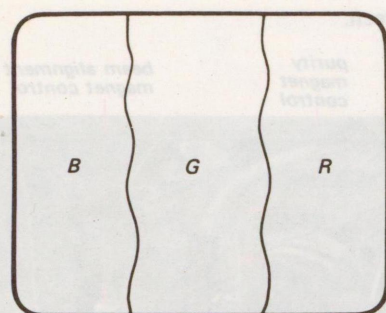

Fig. 3-3. Correct setting of purity-magnet
- Adjust the purity magnet control to center the vertical green band on the screen. See Fig. 3-3.